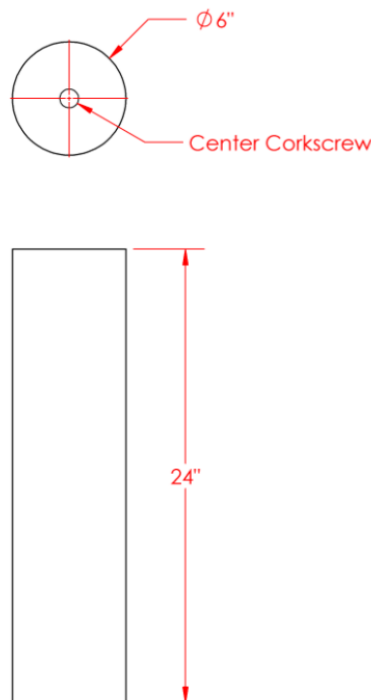

Figure 2: Round Hanging Baffle typical dimensions.
- 6) Custom sizes are available, but typical "stock" size of baffles is a 6" diameter and 24" in length. See Figure 2, below: